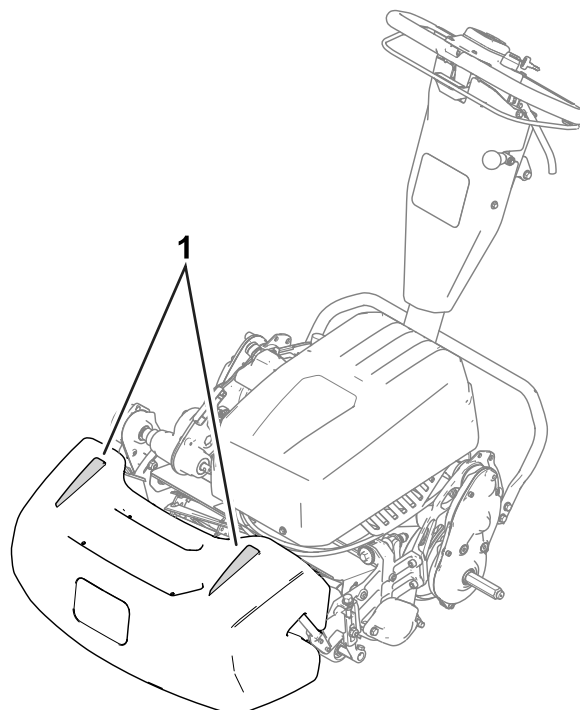

Figure 22
- To assist in maintaining a straight line across the green and to keep the machine an equal distance from the edge of the previous cut, use the alignment stripes on the basket (Figure 22).